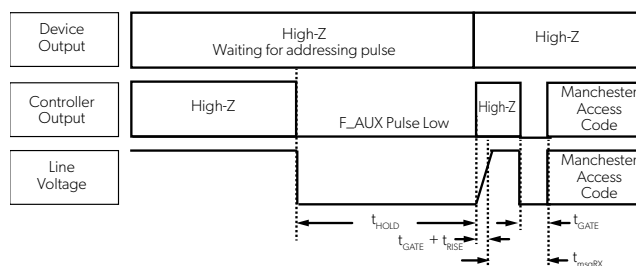

Figure 57: Entering Manchester using Shared SENT
3. If using a version of Shared SENT (OUTMSG_MODE = 3, 4, OR 5), a specific F_AUX pulse is required, followed by the Manchester entry code (Figure 57). A summary is shown in Table 30.